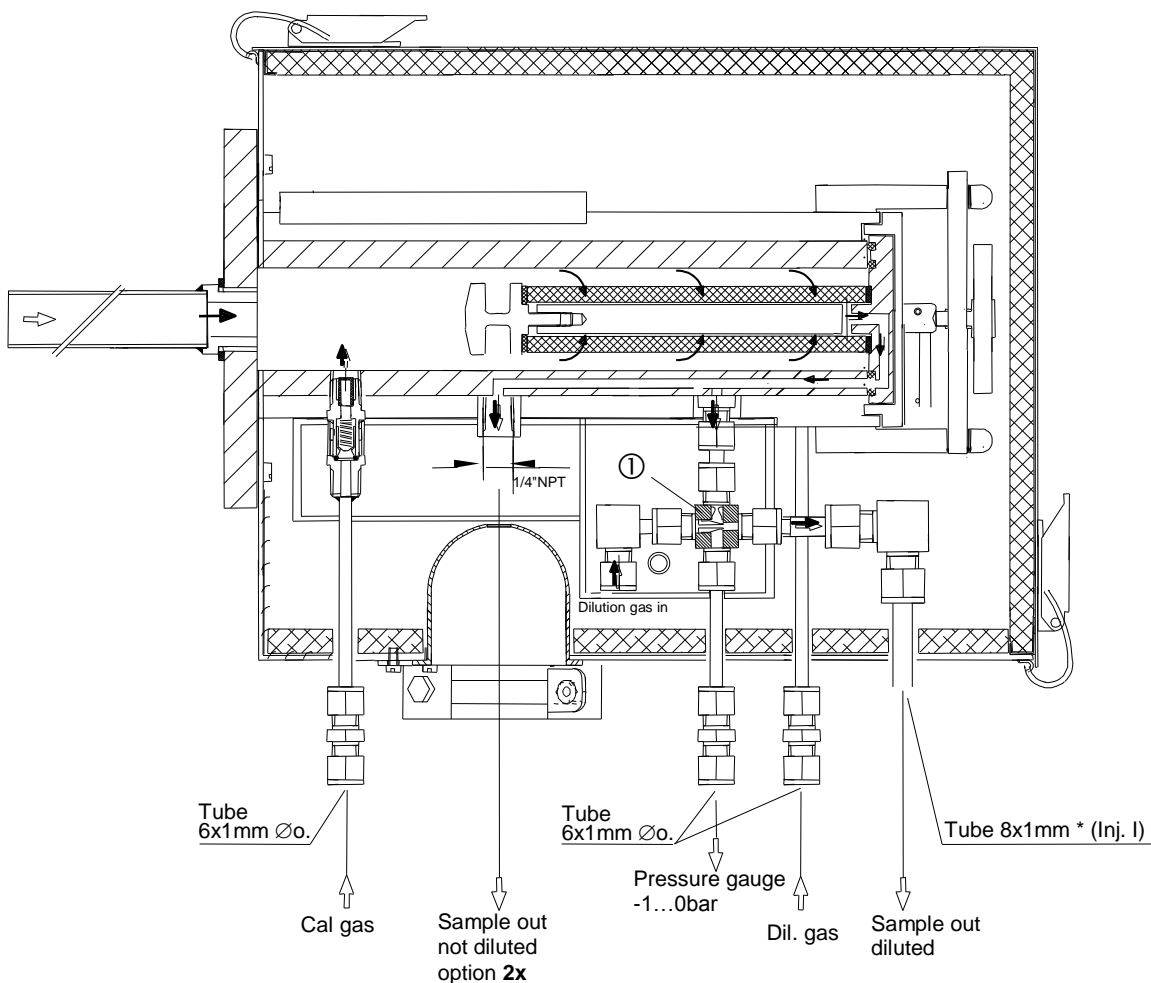
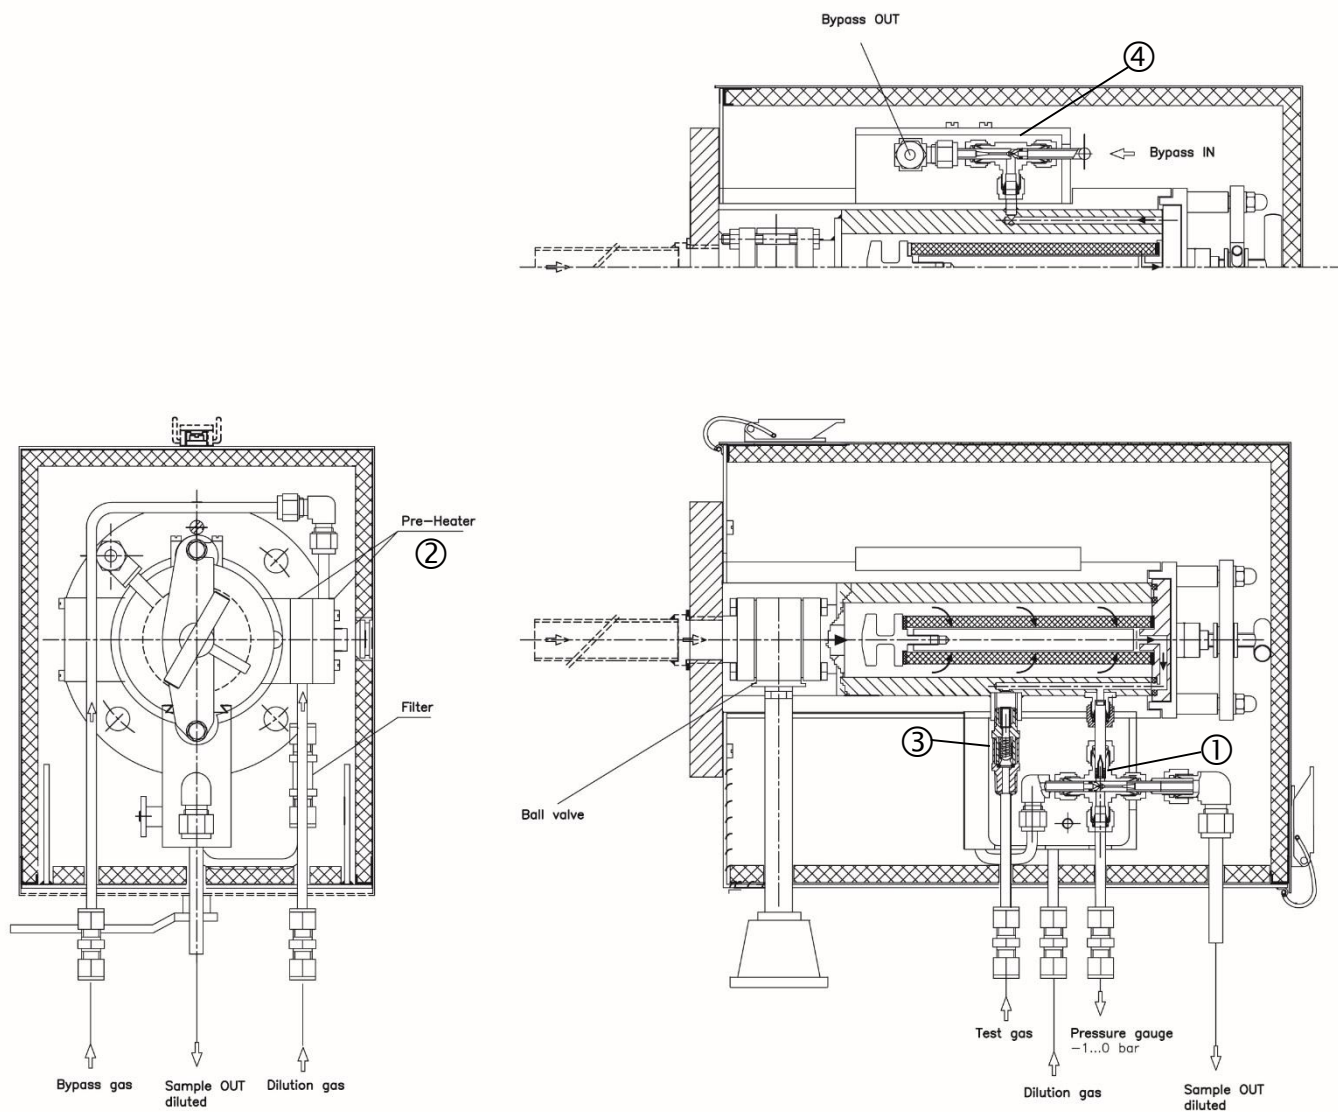
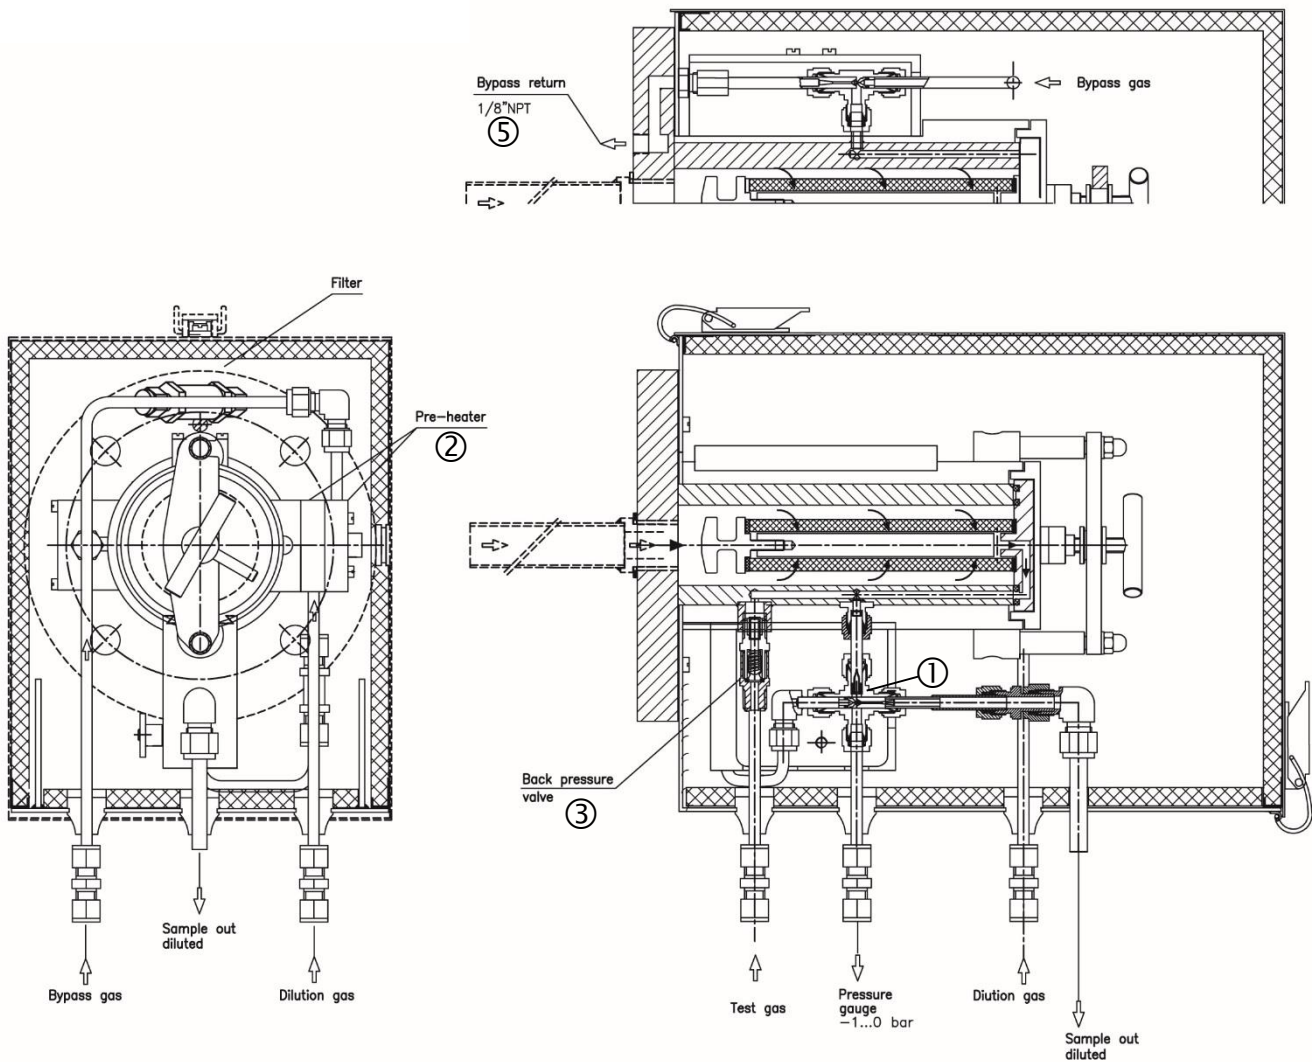

Figure 1 Probe type SP2000H/DIL/2x wit second sample outlet (undiluted)
Figure 2 Probe type SP2000H/DIL/VA/B
Figure 3 Probe type SP2000H/DIL/BR
The probe can also be provided with an optional hand-operated, heated shut-off ball valve in the inlet -VA (see Fig. 2) for the purpose of sealing off the filter space from the sampling process during filter replacement. Another option is the second sample outlet for undiluted gas (..2x, see Fig.1)
A precision pressure regulator with pressure gauge serves for adjustment of the necessary dilution gas supply pressure. The function of the dilution injector is monitored via a vacuum pressure gauge. The pressure regulator and pressure gauge necessary for the dilution function must be ordered separately. Set -A is mounted directly on the probe. Control panel -S is designed for external installation and is additionally provided with a shut-off valve and flow meter for test gas volume adjustment. The options -A1 and -S1 include an additional pressure regulator for the bypass injector -B ④ (see Fig. 2) or bypass injector with process return -BR ⑤ (see Fig. 3).